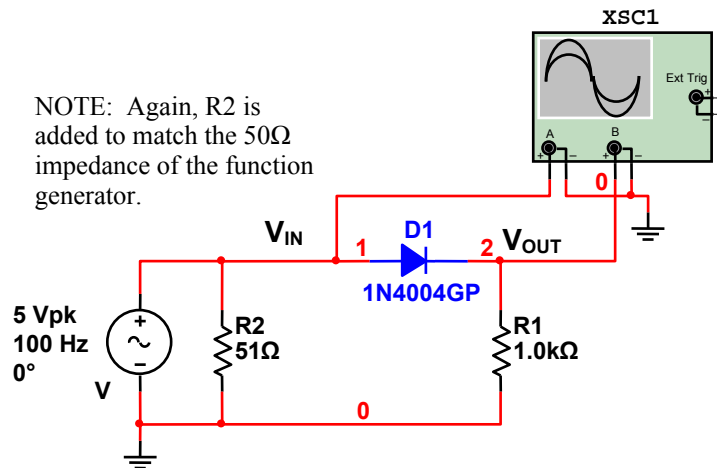

Figure 1-5
- 4.1 Build the diode circuit shown in Fig. 1-5. Use the function generator to set up the input signal source (V1) to be a 5Vpk sine wave at a frequency of 100Hz.